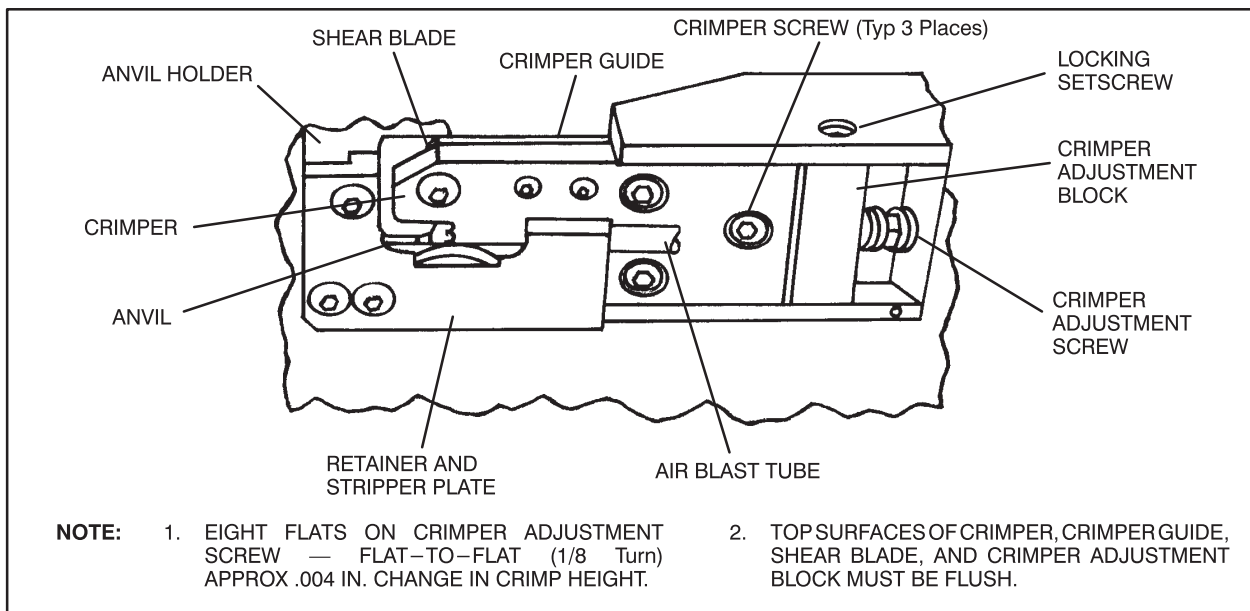

Fig. 5-2. Crimp Height Adjustment Points
7. With the ram fully extended, loosen the three screws securing the crimper adjustment block to the ram and loosen the locking setscrew. Refer to Figure 5-2.